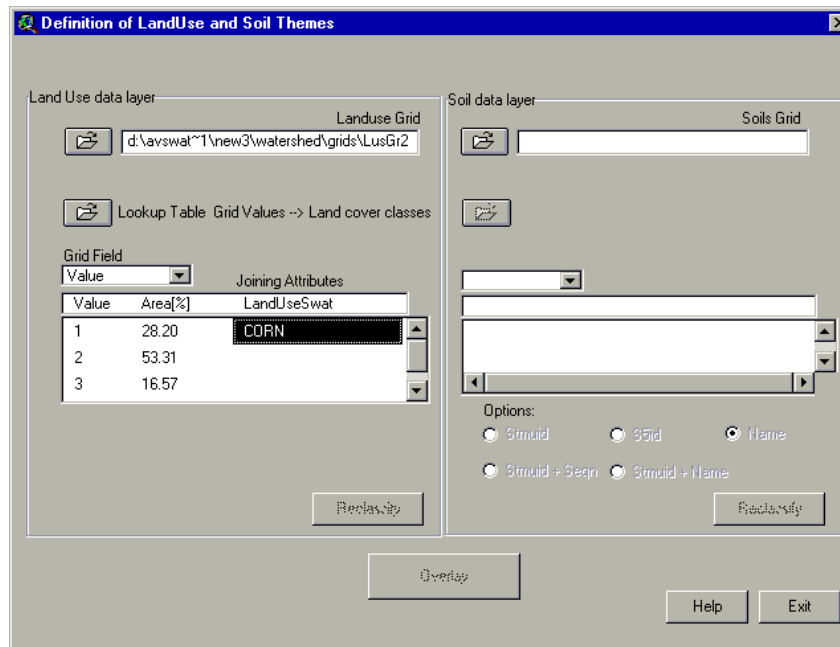

Figure 6.20
- d. Scroll down the list and highlight the land cover code for the map category by clicking on it. Click **OK** (or double click the selection). The SWAT land cover or urban code will be displayed next to the corresponding land use map category in the Definition of *Land Use and Soil Themes* dialog box (Figure 6.20).